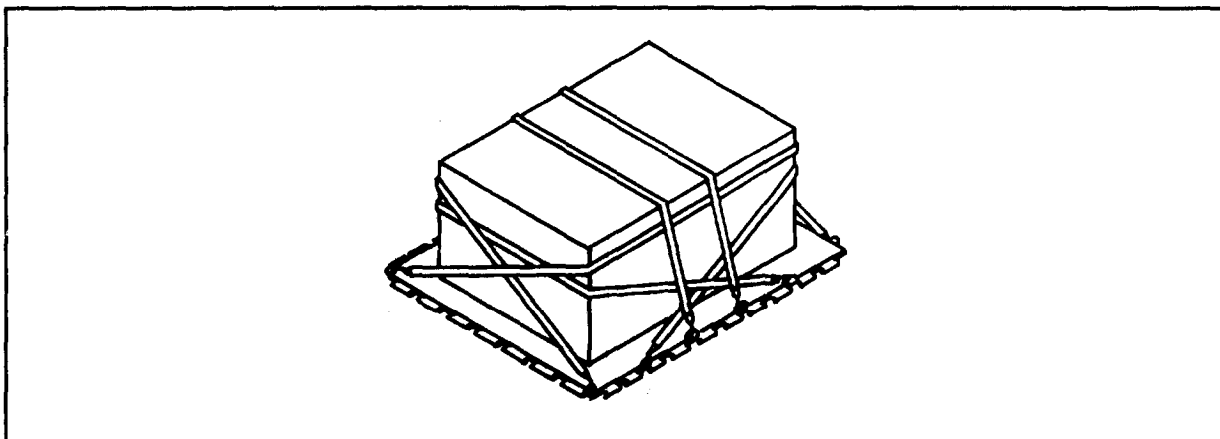
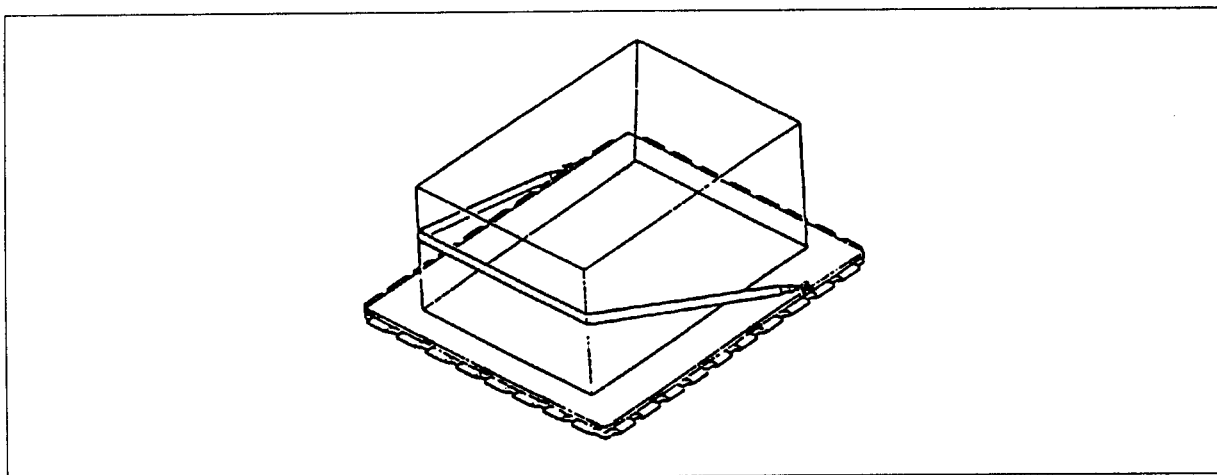

FIGURE 4-10. Cargo Restraint for All Load Direction.
FIGURE 4-11. Supplemental Restraint.
f. Finally, use 5,000-pound tie-down straps, as required, to provide individual item restraint (Figure 4-10) or to provide supplemental restraint (Figure 4-11) to the 463L nets.